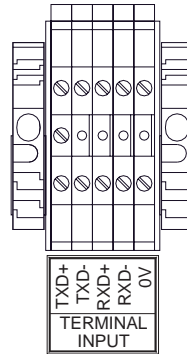

Figure 5 Remote RS-422 connections
4. Connect the RS-422 Serial communications cable to the input terminal blocks inside the 880 Remote Display labeled “TERMINAL INPUT” as shown in (Figure 5).